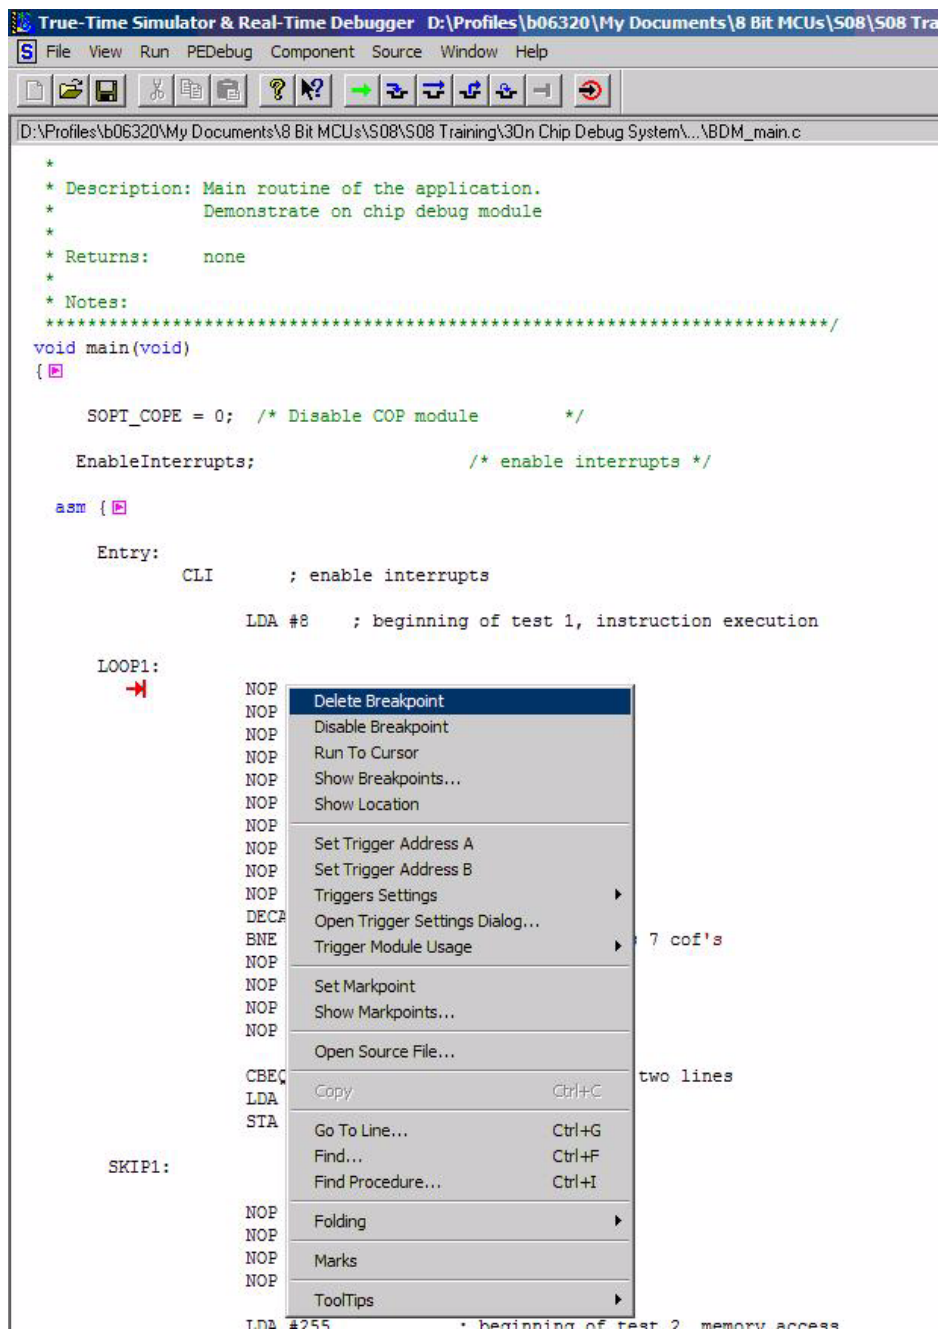

Figure 12. Delete Breakpoint
Delete breakpoints by right clicking on the line they are on and select, delete breakpoint (Figure 12).
- To delete the triggers, right click on the location marked by a trigger. Select delete trigger (in the same manner as deleting a breakpoint [Figure 12]).